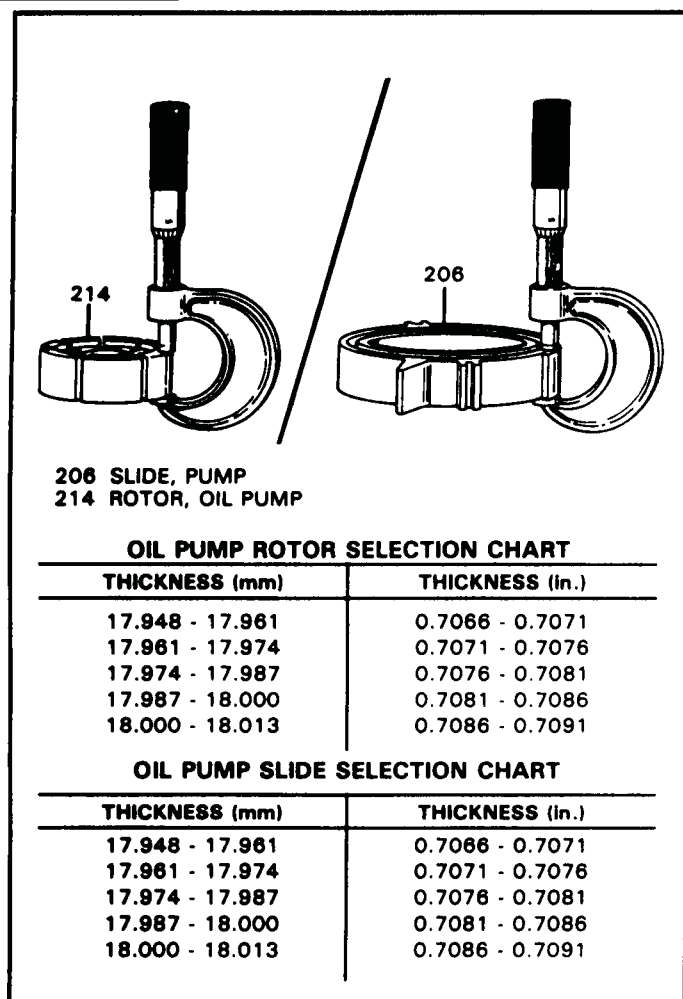

Figure 127
1. A one inch micrometer, capable of measuring in tenths will be required to accurately measure the pump slide and rotor, as shown in Figure 127.
2. Refer to the chart in Figure 127 for the proper rotor and slide selection.